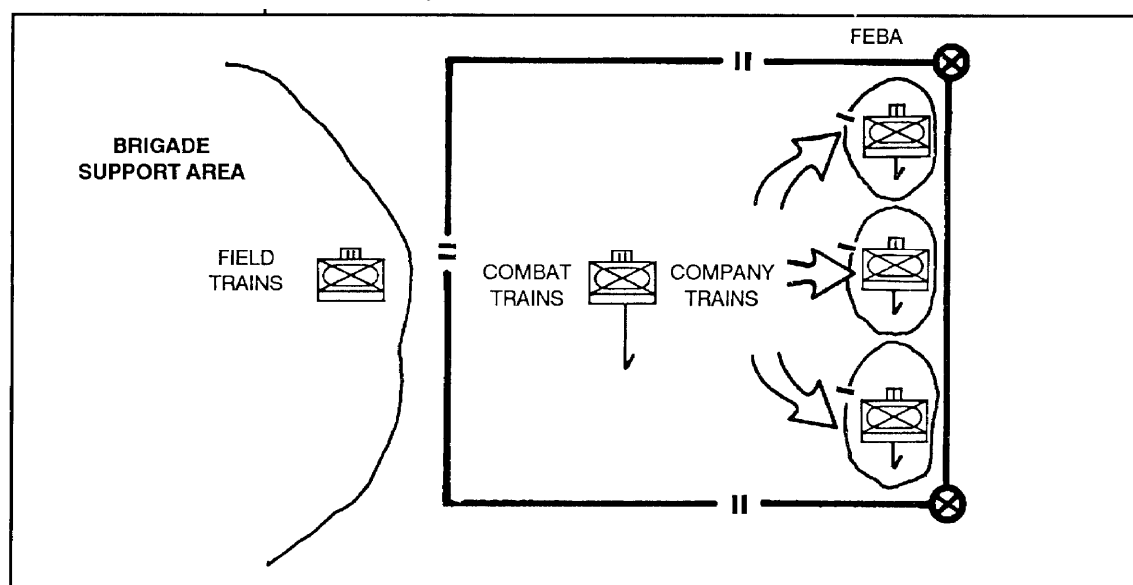

Figure 9-1. Field trains, combat trains, and company trains.
The field trains are where most of the battalion's bulk-loaded ammunition, fuel, food, and other supplies are kept until delivered forward by LOGPAC (Figure 9-1, see page 9-2).
Combat trains consist of the battalion S1, S4, the battalion aid station, some maintenance personnel and equipment, and some support platoon trucks loaded with fuel and ammunition (Figure 9-1).
b. The company trains are normally located between ½ and 1 km or one prominent terrain feature behind the company/team in a covered and concealed position (Figure 9-1). During MOUT, they may be as close as one block behind the forward positions.